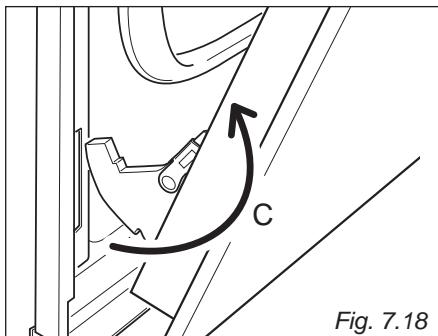

Fig. 7.18
- Withdraw the hinge hooks from their location following arrow "C" (fig. 7.18).